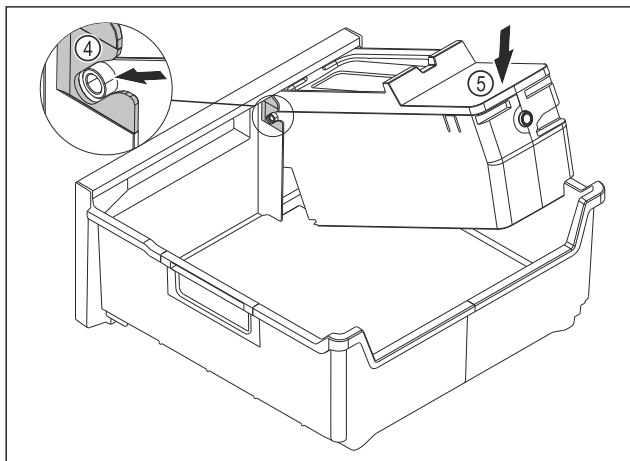

Fig. 187
- Installing the EasyTwist-Ice body: Insert the axes of the EasyTwist-Ice body into the guides Fig. 187 (4).
- Press down the EasyTwist-Ice body Fig. 187 (5) at the rear.